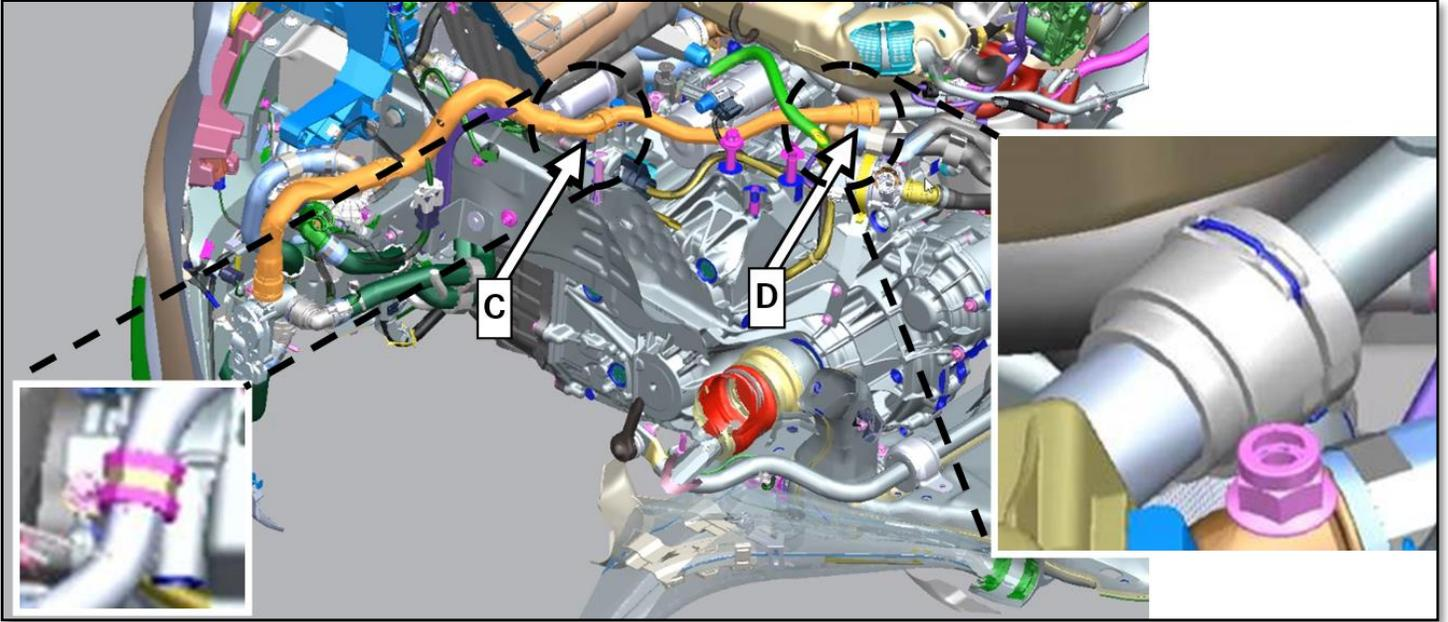

Figure 2
7. Release retaining clamp (C, Figure 2) on transmission, release coolant line (D, Figure 2) and remove.